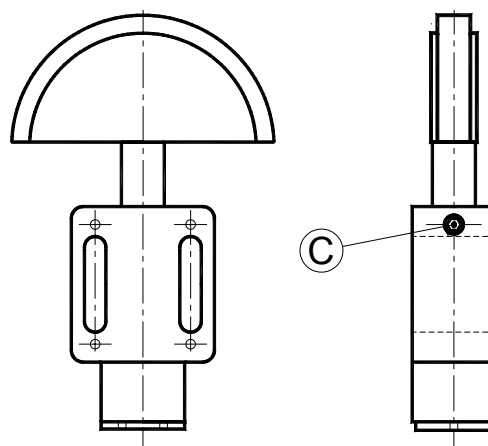

fig 2
**Grandezza TB 10-20-30-40 (Fig.2):**
*TEN BLOC tighteners type TB or TBP have a preloading system to facilitate the assembling operations. This system is realized by a grub screw (C) positioned on the side of the tensioner in the sizes from 10 to 40, and by a TE M8 or M12 screw (D) positioned on the bottom of the cap for the following sizes.*
**Size TB 10-20-30-40 (Figure 2):**
*Compress the tensioner by hand, or by vice, or by press, while it is in the maximum compression position, tighten with setscrew wrench or T-wrench the grub screw (C) on the side of the body. After you have positioned the tightener on the plant, fixing it in the right position as we described previously, unscrew the grub screw. The column will come outside and the tensioner will start to work.*